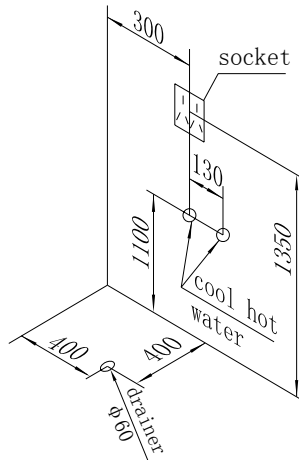

Fig. 1
- 1) User should install inlet tubes for cold and hot water, and install the drain pipe, three-hole socket etc. As fig. 1